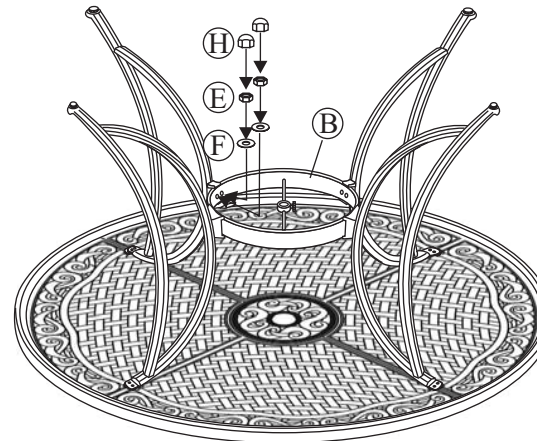

Fig.2
Step3: Attach a leg to the leg connector bracket by carefully guiding the bolts already in place on the table legs (each leg has two bolts) through the holes in the leg connector bracket. Add a washer and a nut to the end of each bolt as shown in the **Fig.2**. **Hand tighten only.** Repeat on the other three legs.